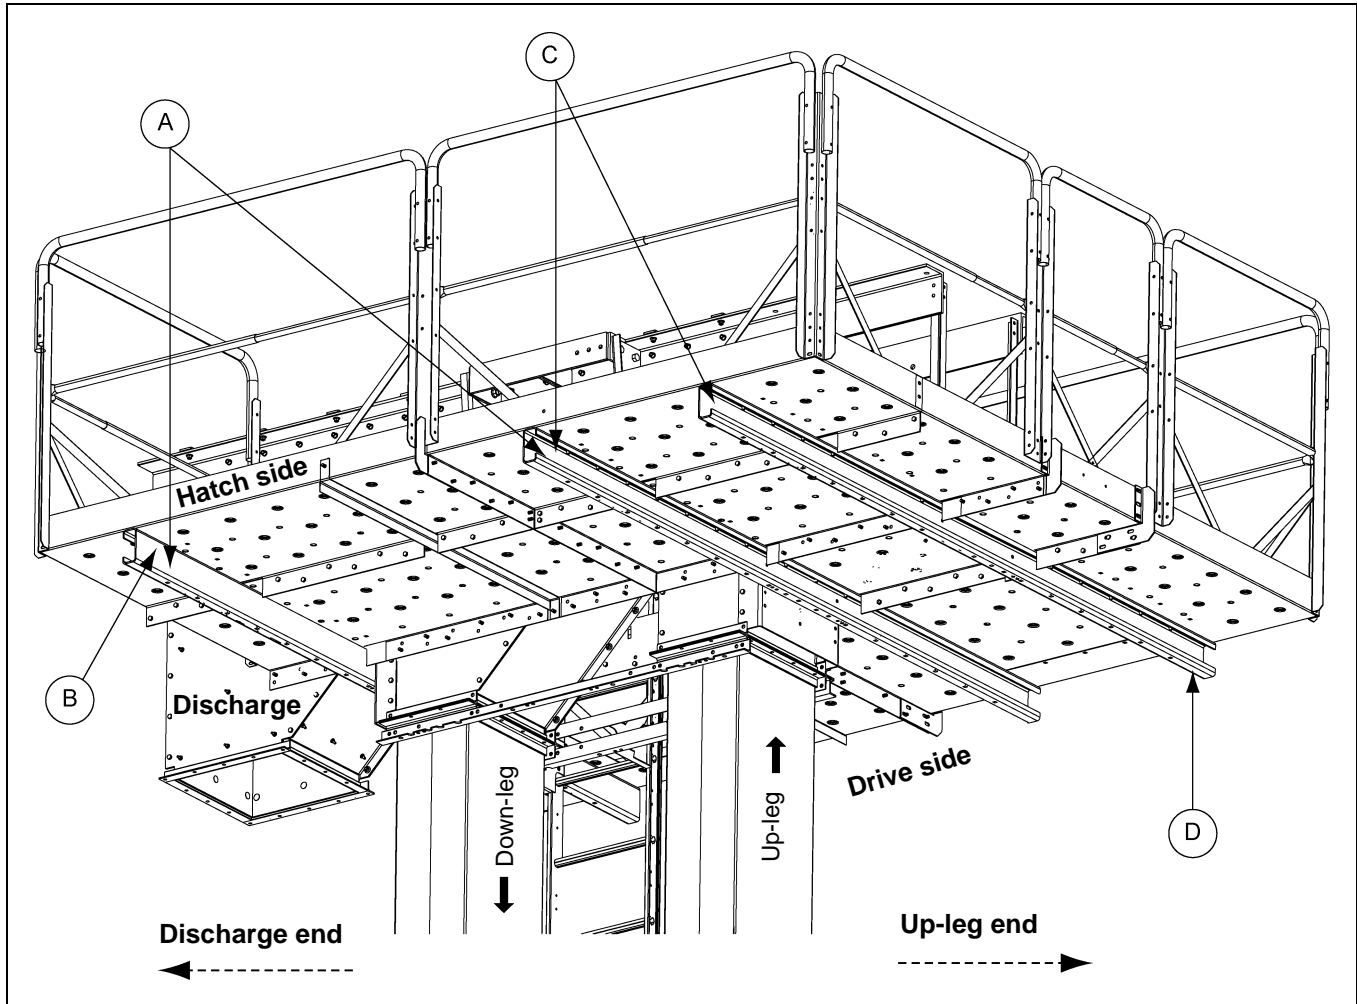

Figure 9A Left Platform Overview
Three (3) cross deck support channels support the platform. Two (2) of the channels are attached to brackets on the lower head section and the third channel is attached to the decking itself but is not attached directly to the lower head. This third channel will be attached after the deck is assembled. (See Figure 9A.)